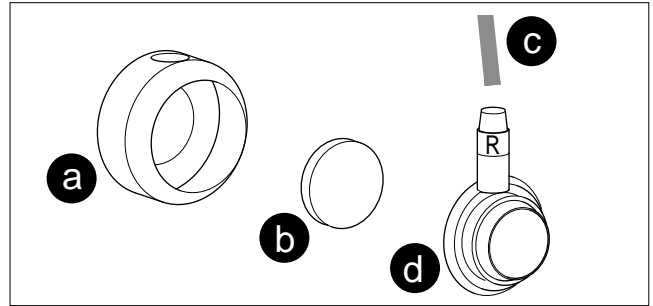

Figure 6-1. Cleaning an electrode
- \* Next, remove the suction cup (a) and the filter disk (b) (Figure 6-1).